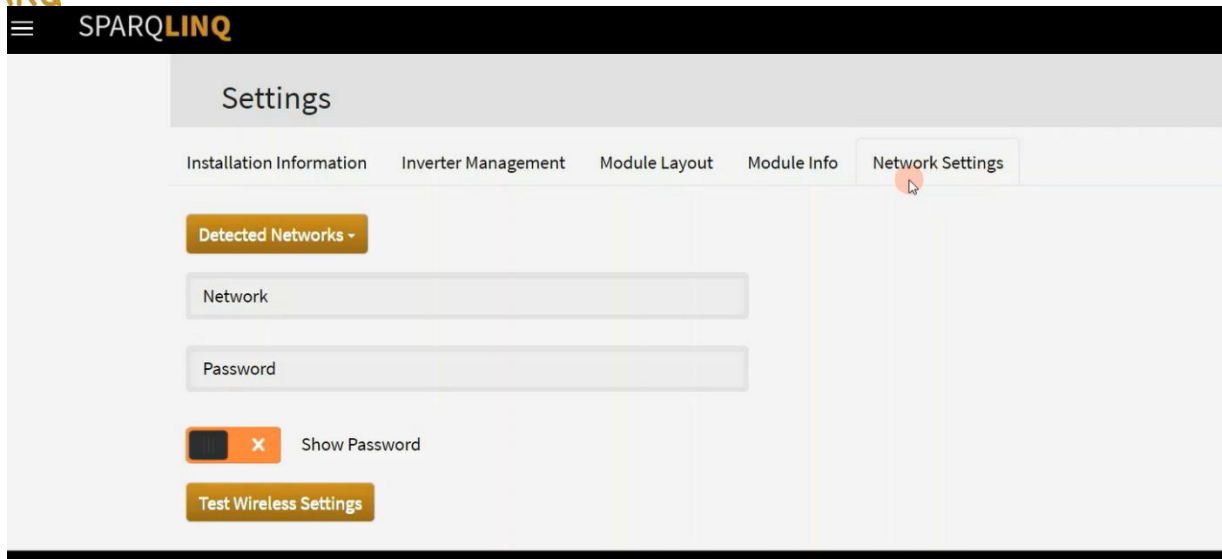

Figure 15: Network detection.
2. On the Settings page select the “Network Settings” menu as shown in Figure 15.